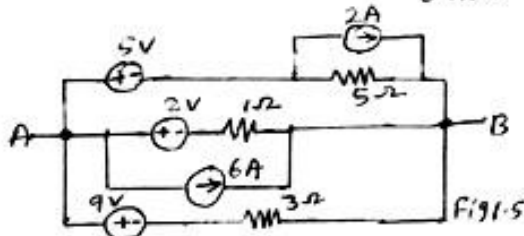

Fig 1.5
9. Calculate the power dissipated in 3Ω resistor in fig.1.5.using mesh current analysis.